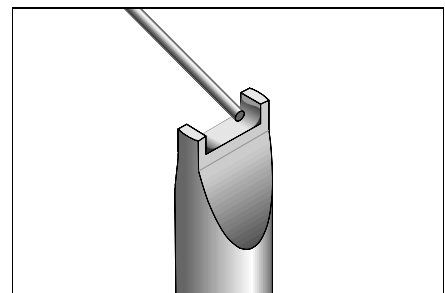

Figure 1: Forked tip shown with solder added to cavity to enhance removal operation.
3. Add solder to the properly prepared tip. Fill the cavity until there is a fillet on each side of the tip. (See Figure 1). Add enough solder to help transfer the heat quickly but not so much that it will fall out when the tip is turned upside down.